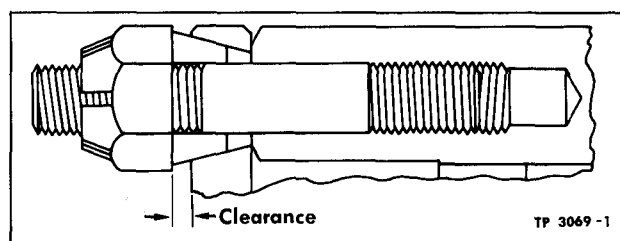

Figure 7—Clearance Between Axle Shaft Flange and Stud Nut
2. The studs must be straight and dowels of correct taper must be used. There should always be a slight clearance between nuts and driving flange when nuts are drawn up (fig. 7). No clearance at this point indicates excessive wear at studs, dowels, or holes in flange. Replacement of worn parts is the only remedy.